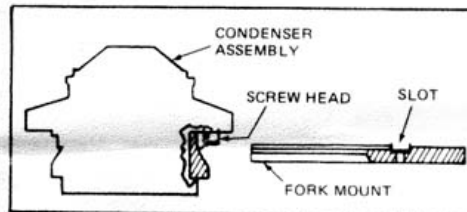

Figure 3
1. Rack the condenser fork down by turning the condenser focusing knob. Remove brightfield condenser and mount. Screw the phase condenser on the single annulus mount and install on condenser fork. Make sure the screwhead on the rear of the mount snaps into the slot on the condenser fork (Figure 3). Tighten the knurled condenser centering screws enough to hold the condenser in place. Exact centering will be done later.